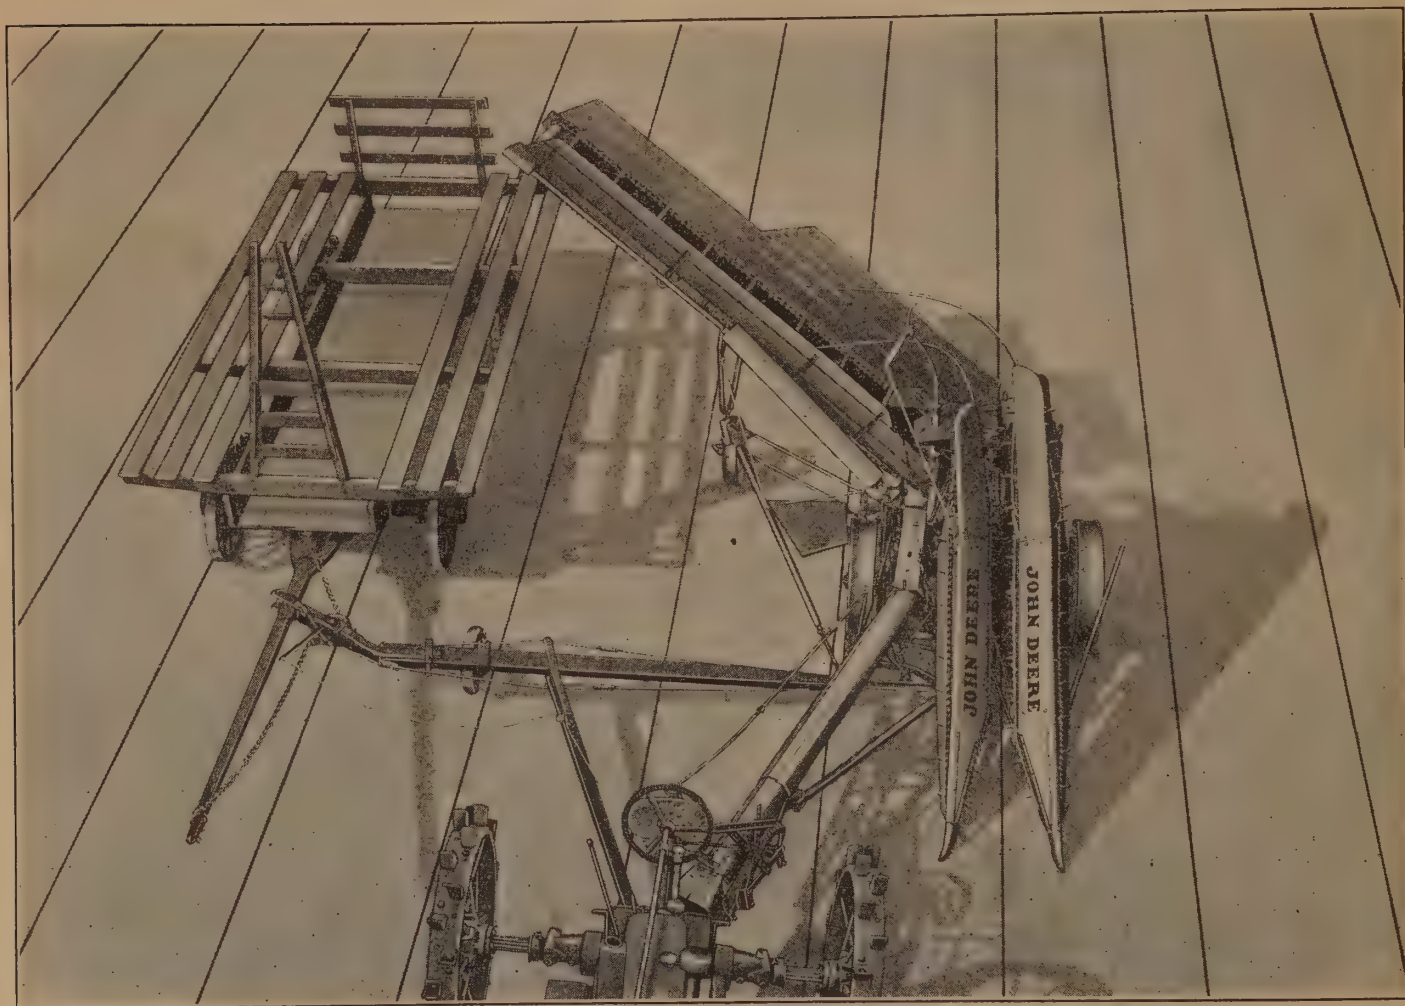

Fig. 46
14. (Fig. 46.) Bolt Safety Shield for lower end of Elevator Drive Shaft to Middle Box Bracket and to Gear Bracket at lower end with **"U"** bolt.
Rear end of Wagon is loaded **first**, so after attaching chain it is necessary to release brake control and pull wagon forward or back up tractor to locate Wagon Hitch at rear end of Wagon Tongue. Wagon is then dropped back when building load forward, by releasing brake control—see Fig. 46.